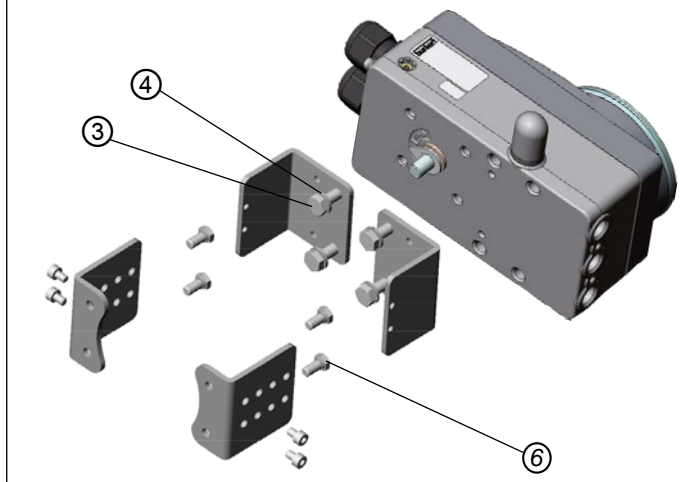

Fig. 12: Attach assembly bridge (schematic representation)
- Attach the assembly bridge to the Type 8792/8793 using 4 hexagon bolts ③ and circlips ④ (see “Fig. 12”).